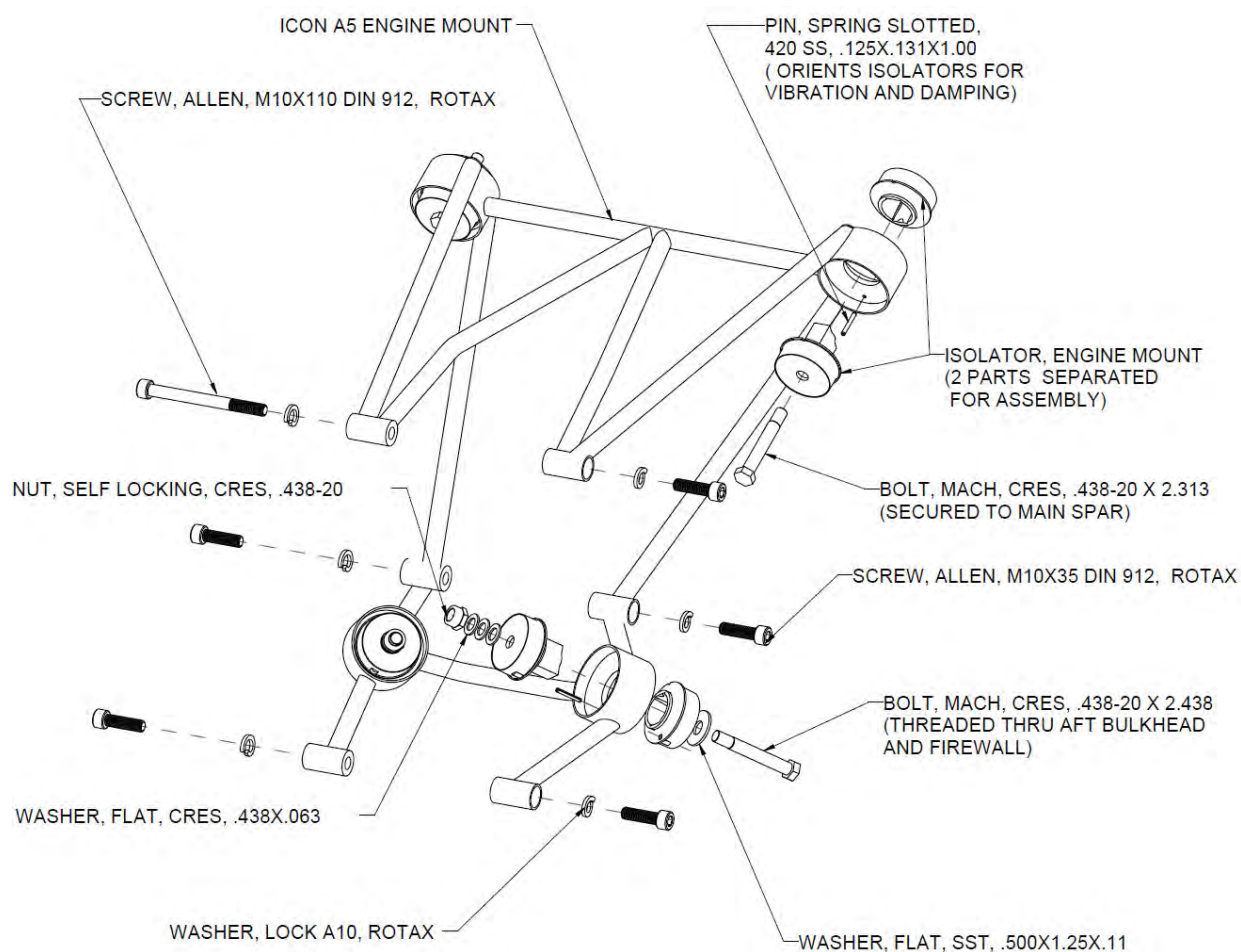

FIGURE 16-18
2. Visually inspect the engine mount and all its inclusive hardware for any failure, malfunction, excessive wear, or other anomalies. Figure 16-18 shows the engine mount with all its inclusive hardware.